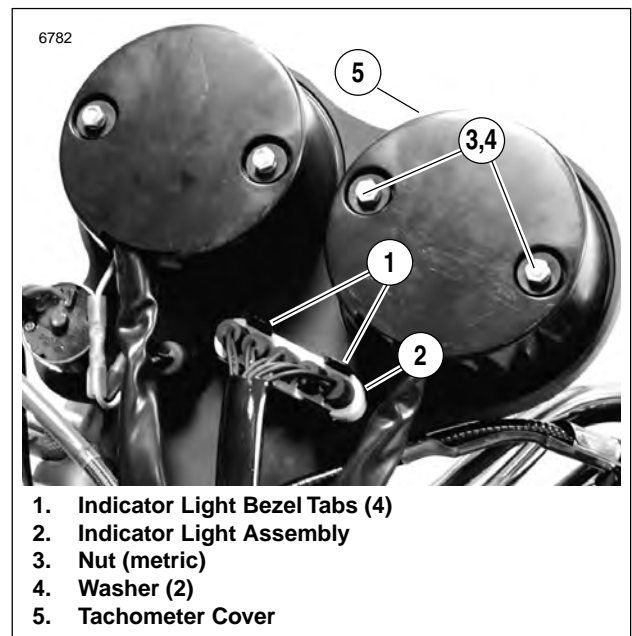

Figure 7-62. Back Dash Panel
3. See Figure 7-62. Remove two nuts (metric) (3) and lock-washers (4) from tachometer cover (5).
4. Slide tachometer cover (5) away from tachometer.